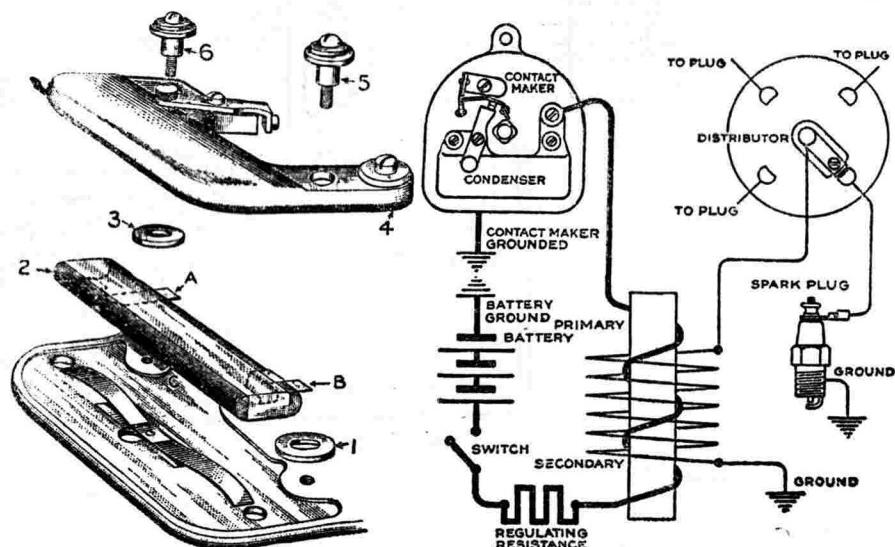

FIG. 3
Condenser, Replacing of—To replace condenser, referring to Fig. 3, first put insulated washer (1) in place, next place condenser (2) in pocket, lay insulating washer (3) on top of condenser terminal (A) place condenser cover (4) in position, and put insulated screws (5 and 6) in. Then adjust contacts.